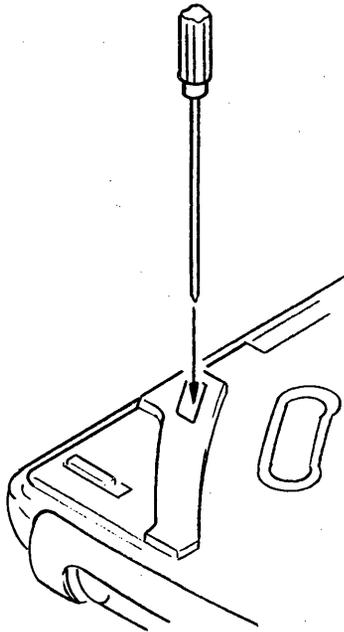

Fig. 1. Turning on S810.
2. Turn on S810 as shown in Fig. 1. (Not required in the service mode.)